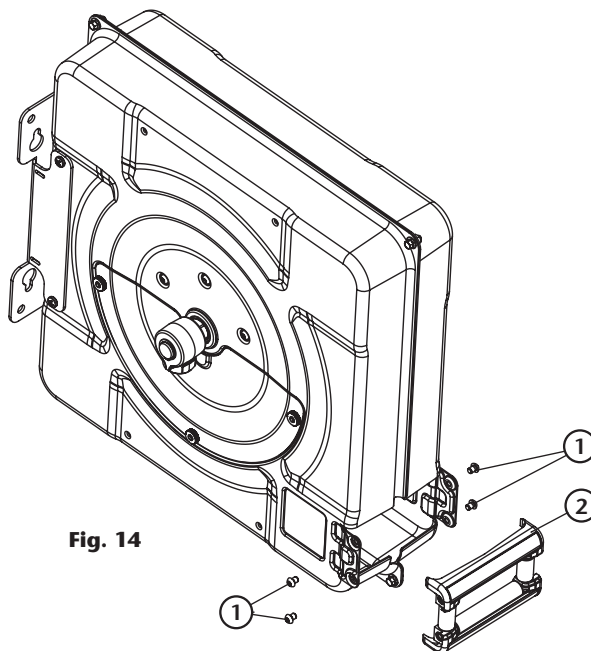

Fig. 14
2. Loosen the bolts (1) (fig. 14) and take away the roller outlet assembly (2) (fig. 14) which can be disassembled in a single piece. The roller outlet assembly can be disassembled into pieces for cleaning. Also you can replace it by a new roller outlet assembly.
5. Take the assembled roller outlet and put it in place over the hose reel, and fix it using the bolts (1) (fig. 14).